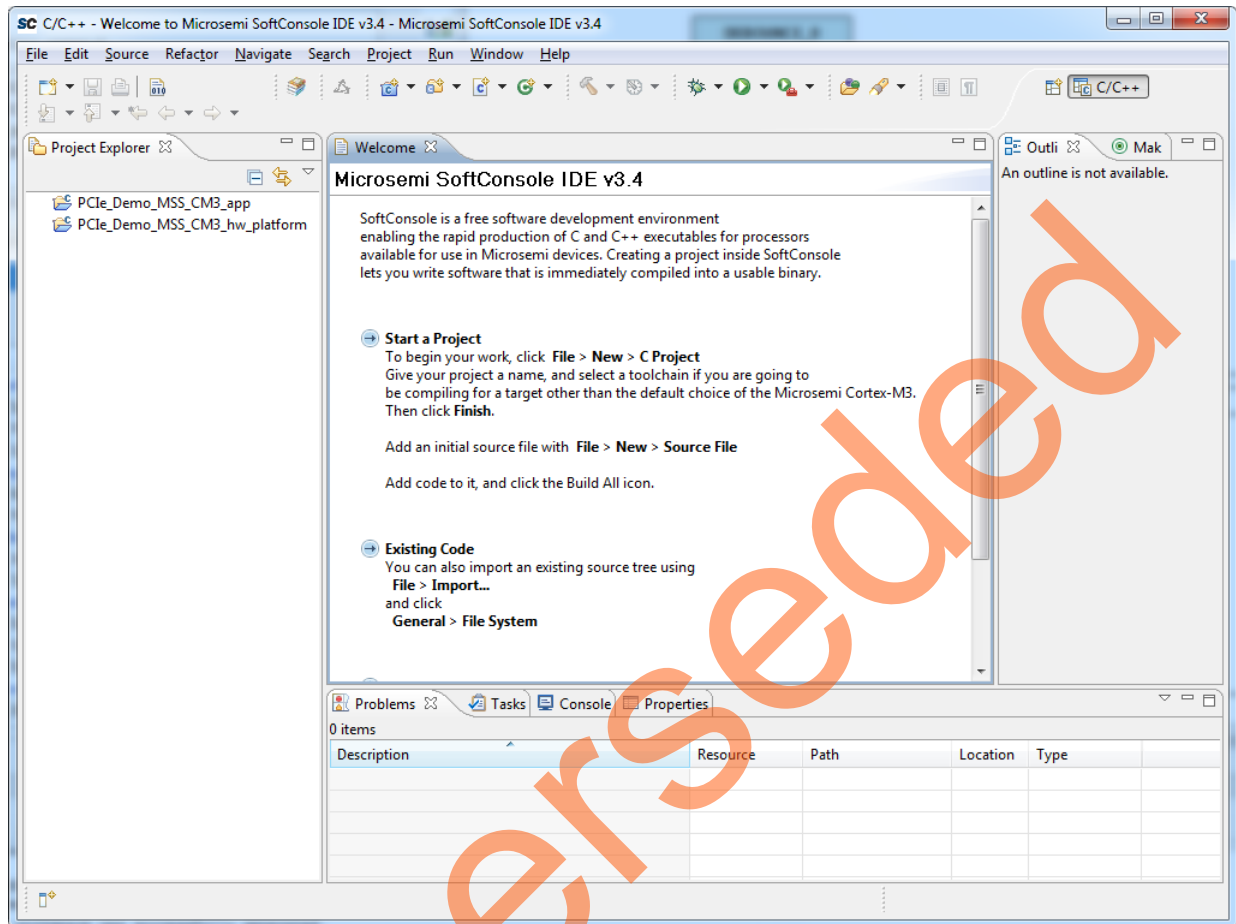

Figure 30 • SoftConsole Workspace
2. The SoftConsole IDE is invoked and the SoftConsole project workspace is displayed as shown in Figure 30.